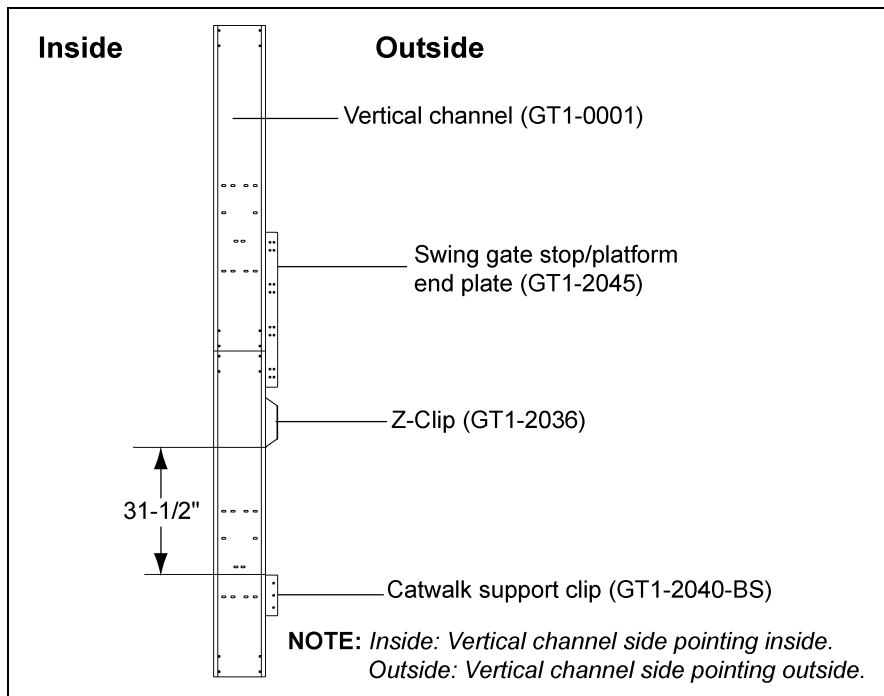

Figure 6H
2. The distance between the Z-clip and support clip for 24' offset and roof hatch platform is 31-1/2". (See Figure 6H below and Figure 6J on Page 44.)